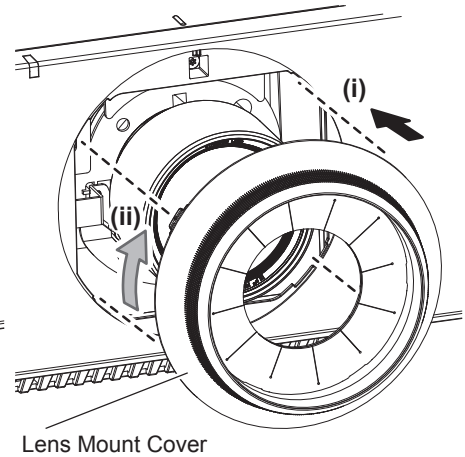

Fig. 3
- 3) **Attach the Lens Mount Cover. (Fig. 3)**